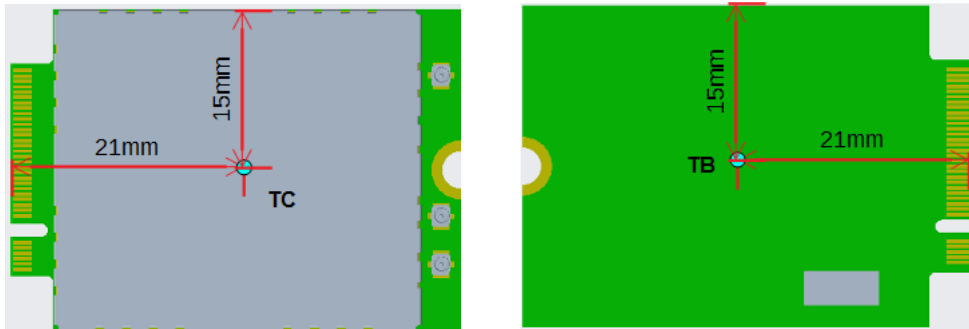

Figure 3: TC/TB Measurement Locations
TC and TB are recommended to be used for evaluating EM759X thermal risk only when TJ is not available. Measurement locations for TC and TB are shown in Figure 3.
1. Attach thermocouples at the TC and TB locations specified in Figure 3.